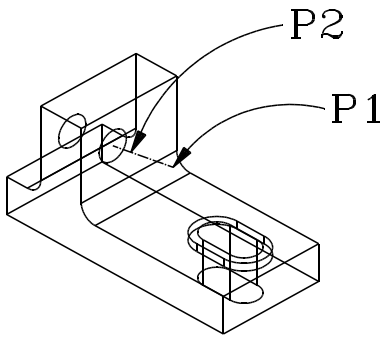

Figure 16
59. Click on point P1, then P2. (See Figure 16.)
61. Click on SELECT, then click on the two ellipses, E1 and E2, added to the drawing. (See Figure 16.)